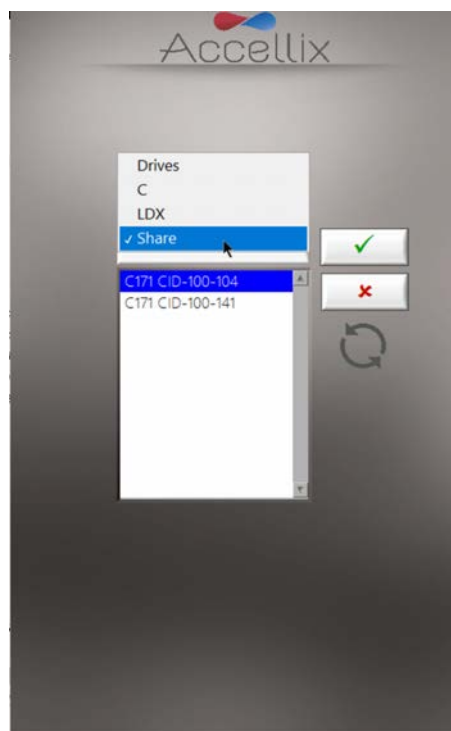

Figure 25: Set Data Destination Configuration screen
- The amount of hard disk space required to copy these files is displayed (“**GB to be copied**”), along with the space available on the destination drive (“**GB Available**”). The copy destination is selected in the **Destination Location** function (Figure 25).
Tapping the folder icon displays the **Set Data Destination Configuration** screen (Figure 25):